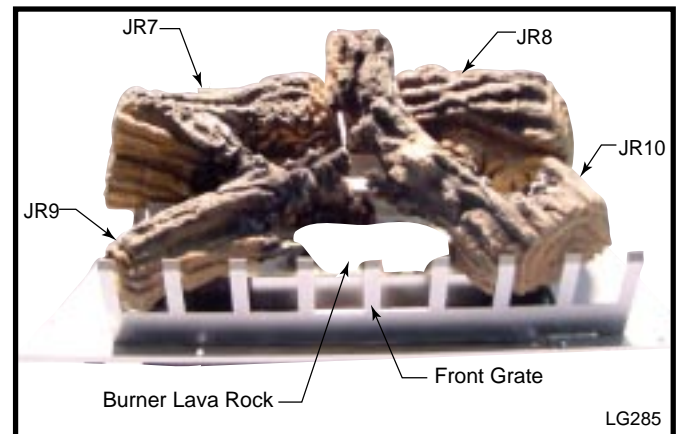

Fig. 18 LHEC20 and LHER20 log and lava rock placement.
LHEC20, LHER20 (Figs. 18)
- b. Place rear right log (JR8). Use the log's bottom holes to locate it onto the two (2) pin studs of the rear log bracket on the right.
- e. Place the burner lava rock on the front area of the burner housing. (Fig. 18)